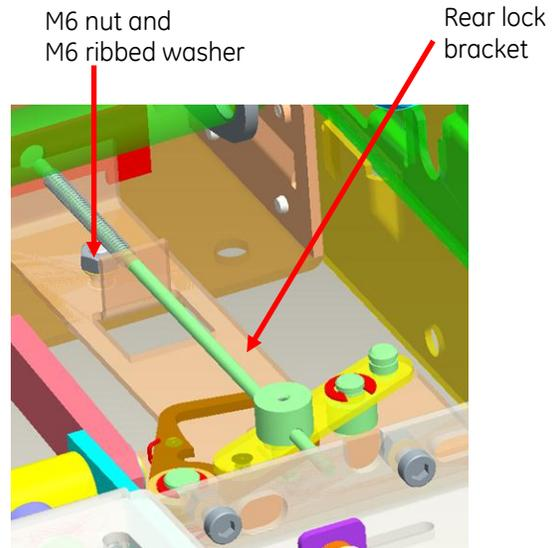

Figure 11
12. Assembly the rear lock bracket on the cassette - tighten them to the rear channel using M6 nut and ribbed washer and to the base plate using two M6 screws, ribbed washers and M6 nuts (as shown in Fig 11).